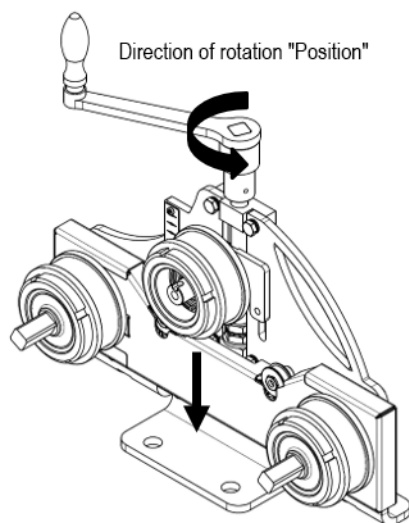
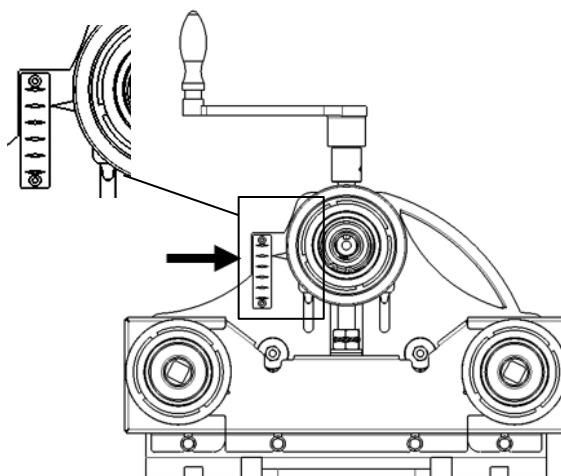

Fig. 12: Position of bending roller (illustration with bending rollers for horizontal bends)
Fig. 13: Adjustment before start of bending (illustration with bending rollers for vertical inner bends)
At the beginning, the arrow at the diamond scale (to the left of the upper roll) should be on the 2nd diamond from the top (see Fig. 12 and Fig. 13).
- The desired radius is achieved by the gradual positioning of the bending roller. From a radius of approx. 4 m with approx. one crank rotation, and for radii smaller than 4 m with max. ½ crank rotation (see Fig. 12 and Fig. 13).